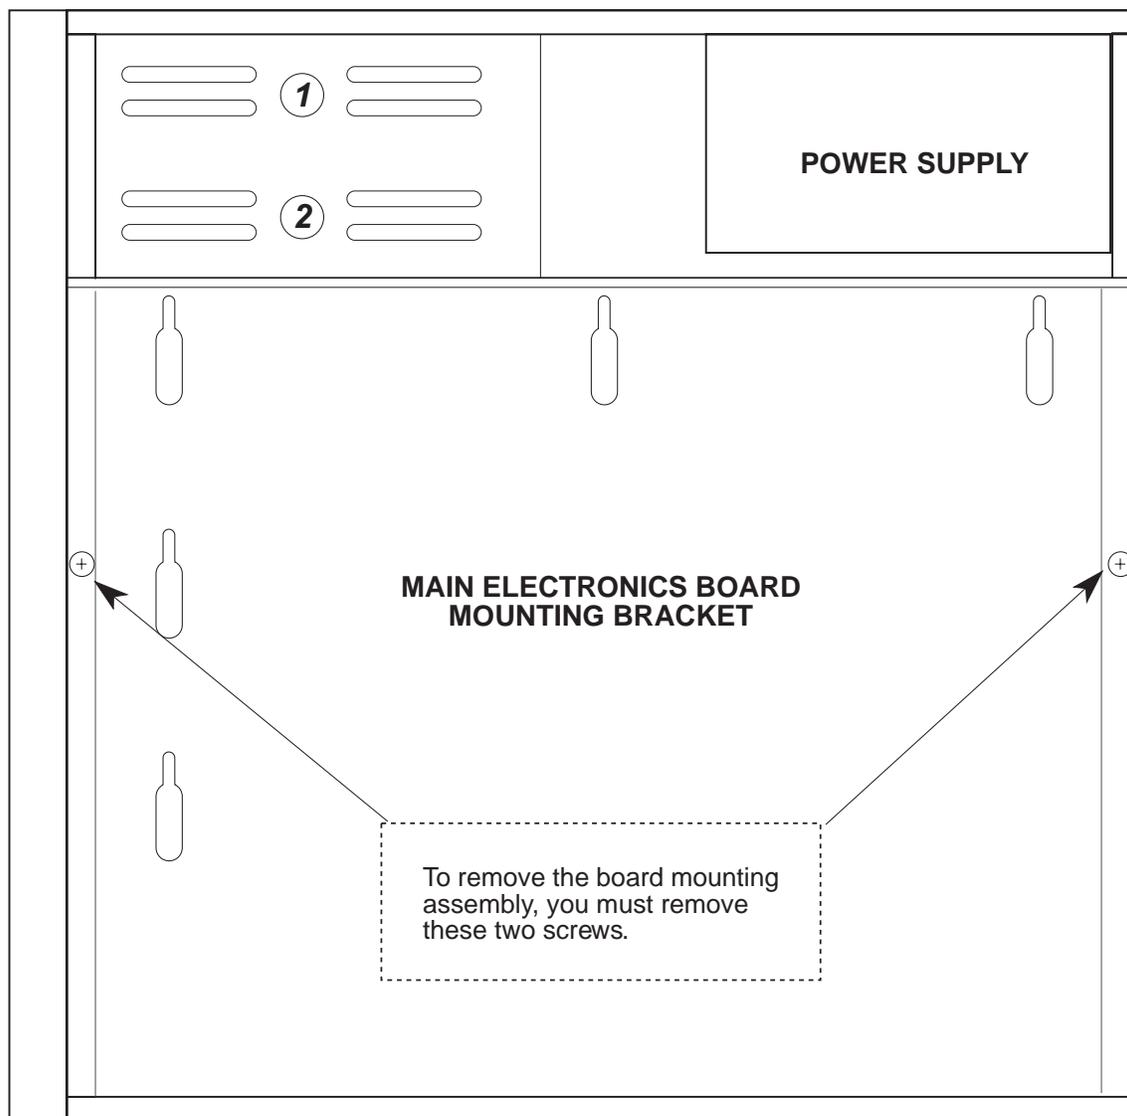

Figure 7-5: AM-319 Mounting Bracket Removal
4. Remove the two screws attaching the AM-319's mounting plate to the chassis, as shown in Figure 7-5.